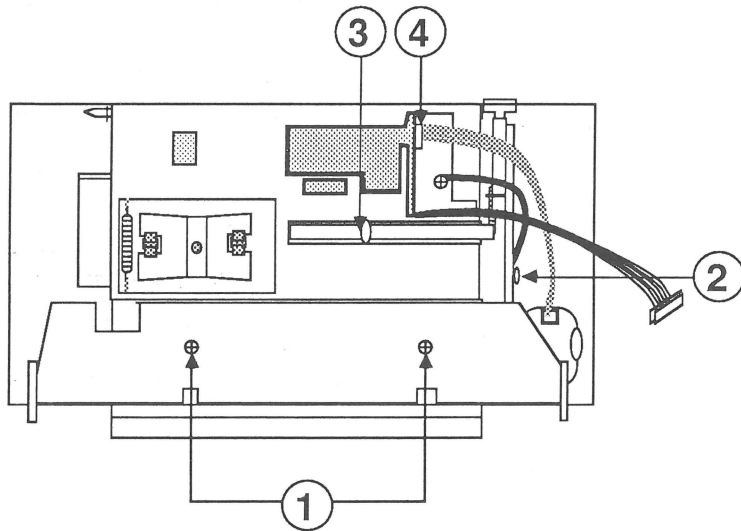

FIGURE 3
2. Remove the two screws (Figure 3, #1) that hold the frame assembly together.
3. Remove the grounding screw (Figure 3, #2) attached to the frame assembly.
4. Remove the lever lock (Figure 3, #3) attached to the spring.
5. Remove the connector (Figure 3, #4) that runs from the PCB to the stepper motor.
IPL.7	Platen and Tractor Assemblies (Figure 3)